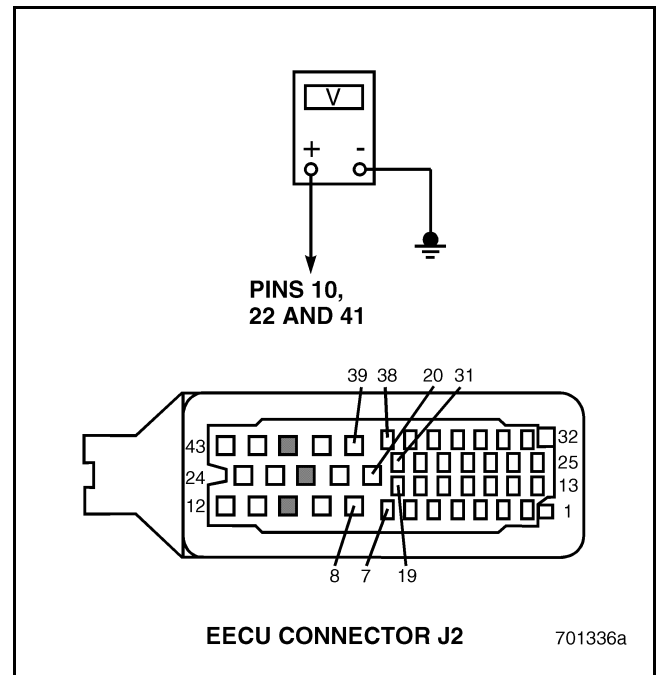

Figure 722
4. Measure the voltage between EECU connector J2 pins 10, 22, and 41 versus a good ground (see Figure 722).